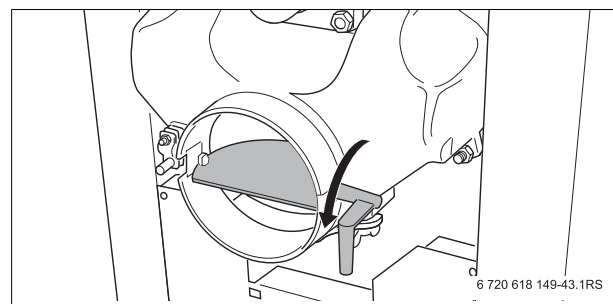
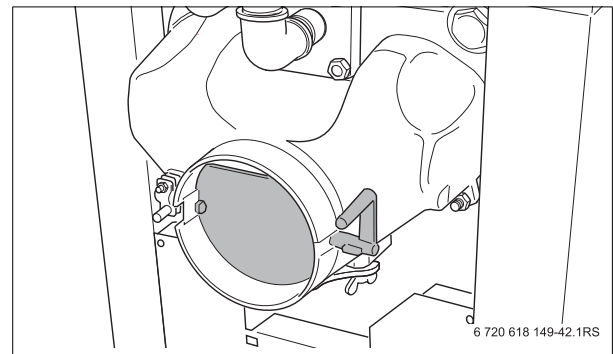

Fig. 8 Open the exhaust flap
Fig. 11 Closing the exhaust flap
- To prevent heat losses in the chimney, close the exhaust flap depending on the flue draft (→ Fig. 11). If the flue gases are not drawing properly (flue draft is not sufficient), open the exhaust flap a little again (→ Fig. 8, page 13).